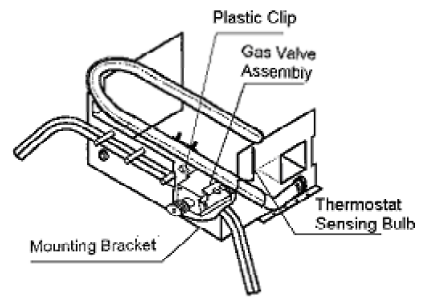
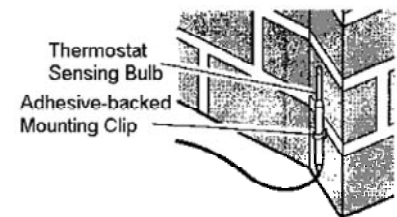
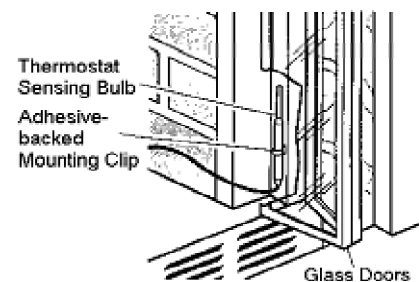

Figure 39 - Removing Thermostat Sensing Bulb
Figure 40- Installing Thermostat Sensing Bulb on Masonry Fireplace
Figure 42 - Installing Thermostat Sensing Bulb behind Glass Door
3. The thermostat sensing bulb may be located to the lower right front side of fireplace. Determine location of sensing bulb, but do not mount sensing bulb until step 5. If you have a masonry fireplace, (see Figure 40 for location). If you have a factory-built metal fireplace, see Figure 39 for location. If your fireplace has glass doors, position sensing bulb directly behind door gap on right bottom side (see Figure 42).
For all heater models. Equipment shutoff valve with 1/8" NPT tap and 1/2" NPT Pipe(see Figure 42).